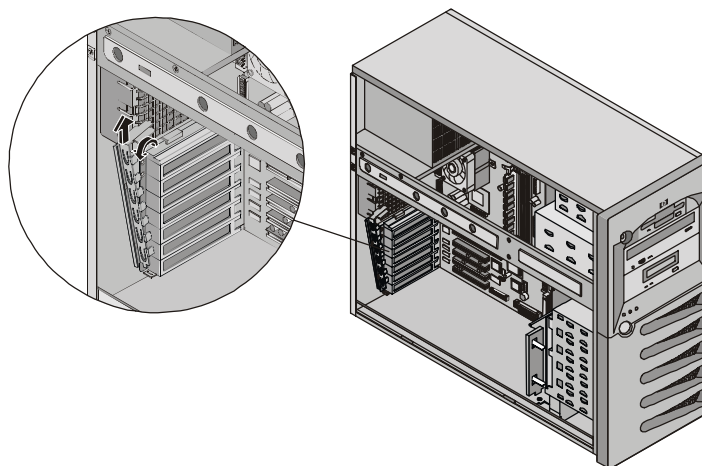

Figure 3-8. Removing IO Locking Bracket
1. Remove the IO locking bracket. See Figure 3-8.